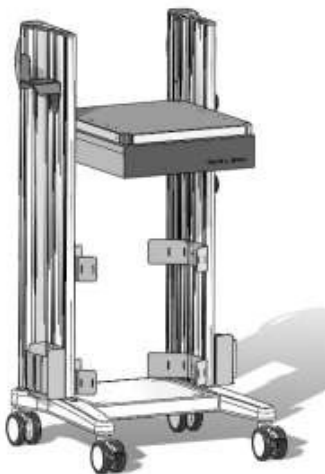

FIGURE 1/FIGURA 1
3. Units should be placed in order as shown in FIGURE 1.